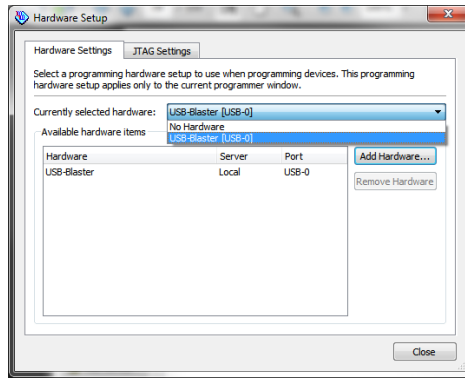

Figure 4. Choosing the USB-Blaster option on the Hardware Setup window
*Important note:* The first time that you open the programmer window, you must click Hardware Setup, and turn on the **USB-Blaster [USB-0]** option under the **Currently selected hardware** pull down menu as shown in Figure 4. Then select close and return to the programmer window.